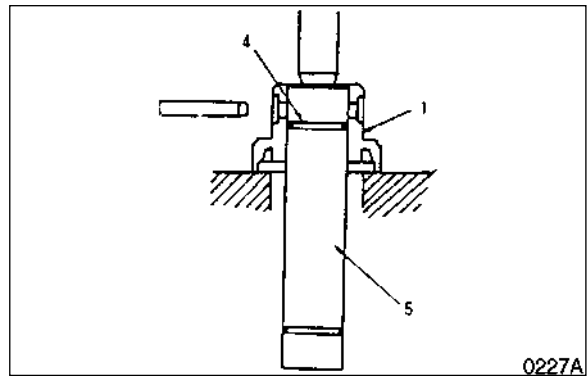

Figure 25
- Use a press to separate the axle (5, Figure 25), O-ring (4) and bearing (1).